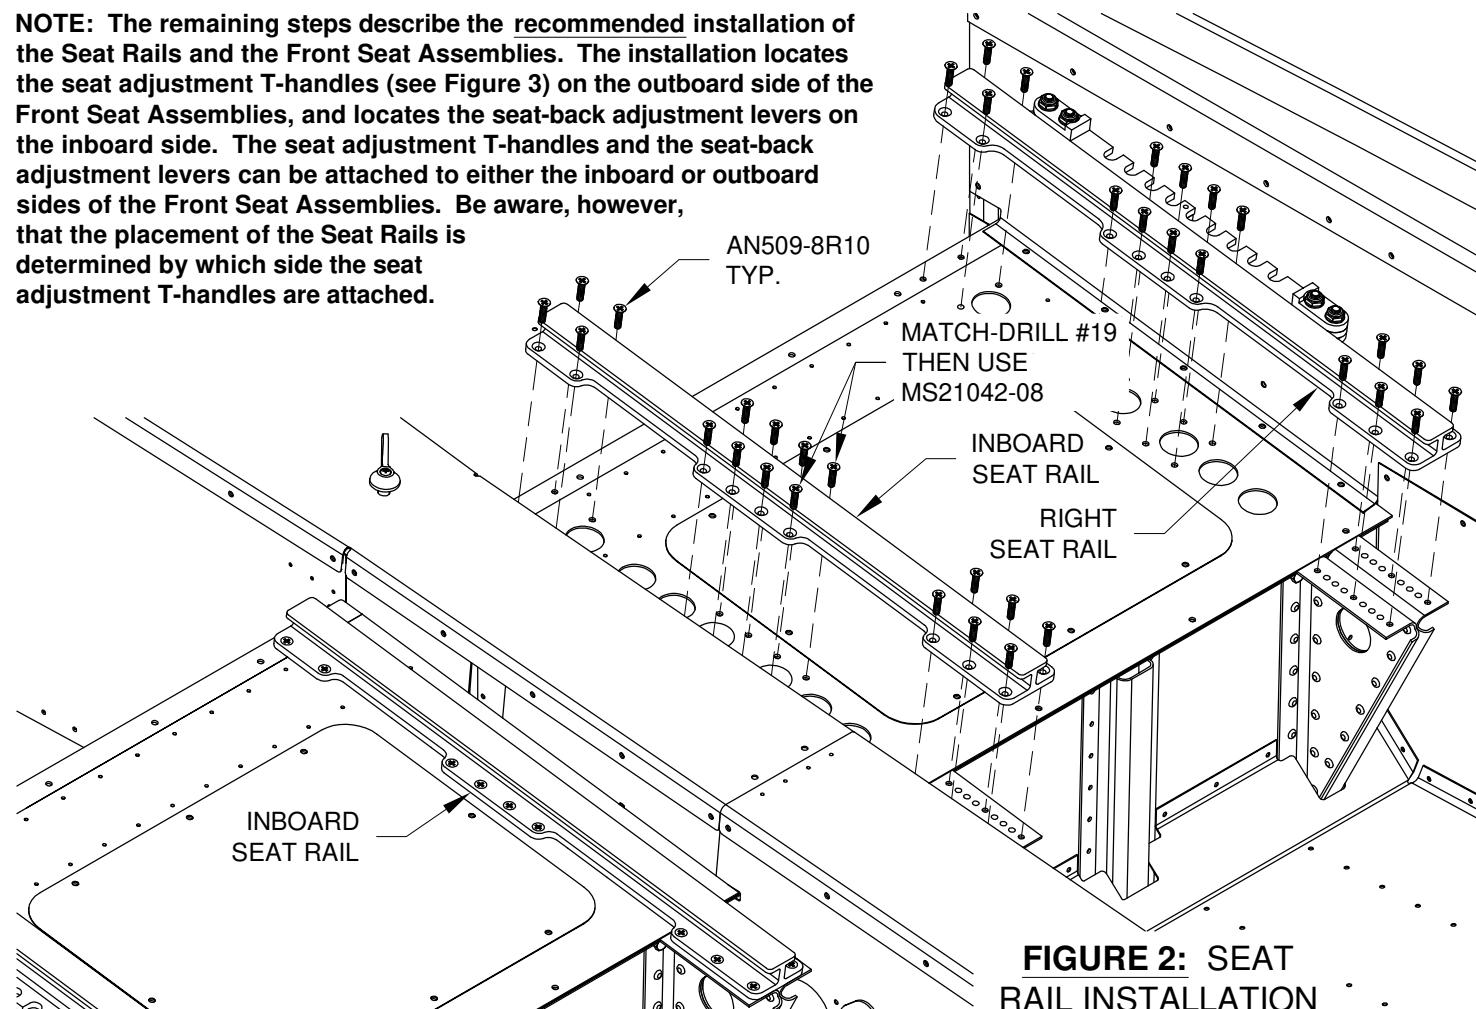

FIGURE 2: SEAT RAIL INSTALLATION
Step 2: Match-Drill #19 the F-01057-L & -R-1 Mid Seat Rail Supports from the two indicated holes in the F-01067A-1 Seat Floors. See Figure 2. Clean out any drill chips/shavings.
Step 3: Install the Seat Rails using the hardware called-out in Figure 2.